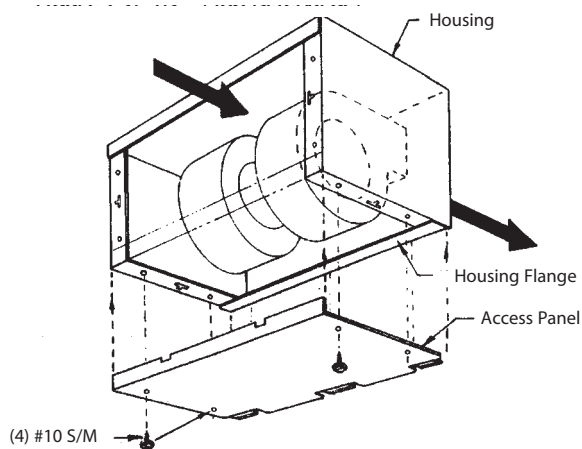

FIGURE 29: "TD" (TOP DISCHARGE)
2. Reassemble the access panel by rotating the access panel 90° and remount it to the housing. Finally, reinstall the four #10 sheet metal screws. See figure 29.